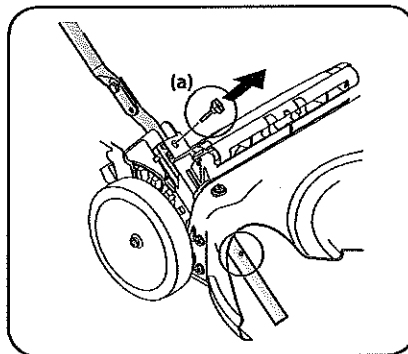

Figure 2-3
4. Remove the T-bolts (a) from the handle brackets as shown in Figure 2-3.
- a. Pull upward on the handle until holes in lower handle (shown in Figure 2-3 deck cutaway) line up with holes in handle bracket. See Figure 2-4.